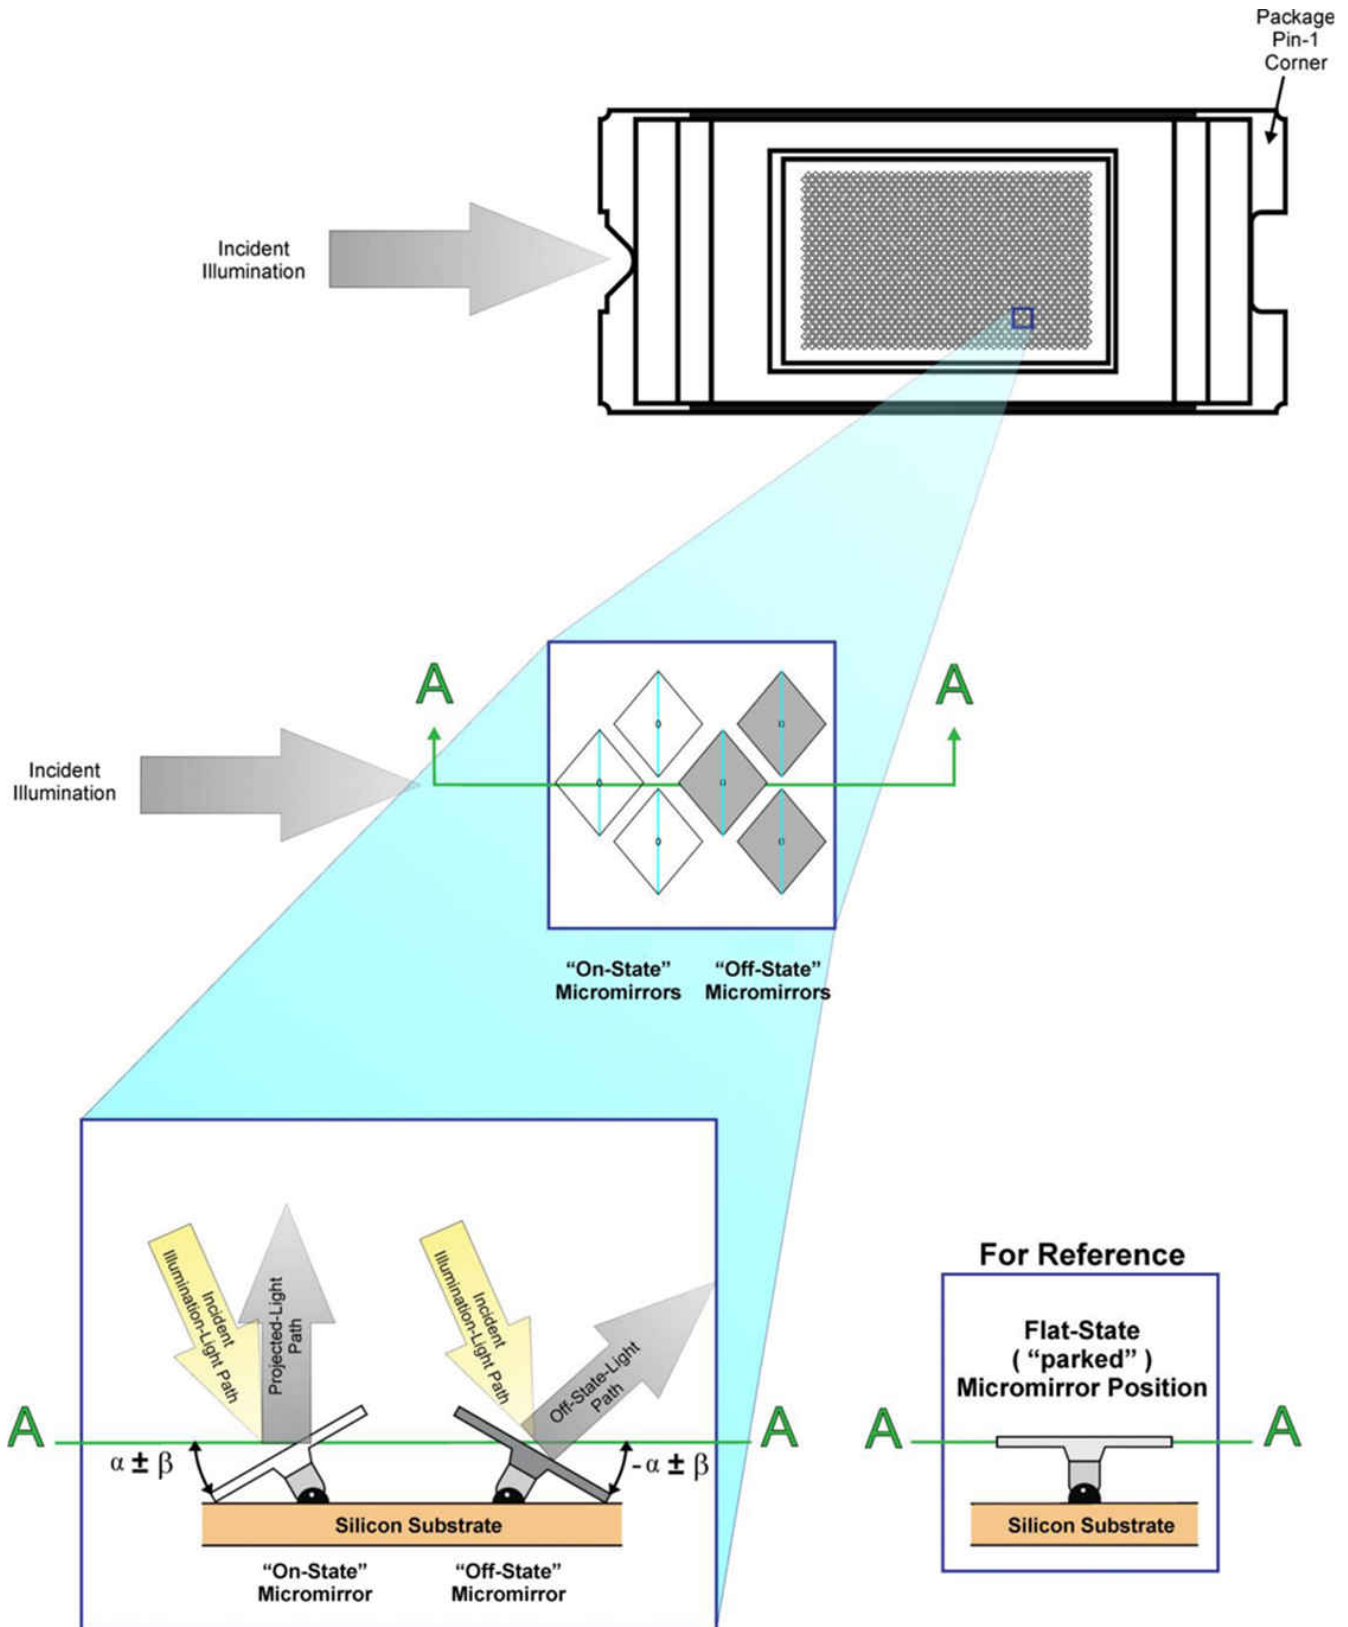

图 8-2. Micromirror Landed Positions and Light Paths
- (1) Measured relative to the plane formed by the overall micromirror array.
- (2) Micromirror crossover time is primarily a function of the natural response time of the micromirrors.
- (3) *Parking* the micromirror array returns all of the micromirrors to a relatively flat (0°) state (as measured relative to the plane formed by the overall micromirror array).
- (4) When the micromirror array is *parked*, the tilt angle of each individual micromirror is uncontrolled.
- (5) Additional variation exists between the micromirror array and the package datums.
- (6) When the micromirror array is *landed*, the tilt angle of each individual micromirror is dictated by the binary contents of the CMOS memory cell associated with each individual micromirror. A binary value of 1 results in a micromirror *landing* in an nominal angular position of +12°. A binary value of 0 results in a micromirror *landing* in an nominal angular position of - 12°.
- (7) Represents the *landed* tilt angle variation relative to the nominal *landed* tilt angle
- (8) Represents the variation that can occur between any two individual micromirrors, located on the same device or located on different devices.
- (9) For some applications, it is critical to account for the micromirror tilt angle variation in the overall system optical design. With some system optical designs, the micromirror tilt angle variation within a device may result in perceivable non-uniformities in the light field reflected from the micromirror array. With some system optical designs, the micromirror tilt angle variation between devices may result in colorimetry variations or system contrast variations.
- (10) See 图 8-2.
- (11) Non-operating micromirror is defined as a micromirror that is unable to transition nominally from the - 12° position to +12° or vice versa.
- (12) Performance as measured at the start of life.
- (13) Measured relative to the package datums B and C, shown in the Package Mechanical Data section in # 13.
- (14) The nominal DMD total optical efficiency results from the following four components:
- (15) The DMD diffraction efficiency and total optical efficiency observed in a specific application depends on numerous application-specific design variables, such as:
Each micromirror is switchable between two discrete angular positions: -12° and 12° . The angular positions α and β are measured relative to a 0° flat reference when the mirrors are parked in their inactive state, parallel to the array plane (see Figure 8-2). The parked position is not a latched position. Individual micromirror angular positions are relatively flat, but do vary. The tilt direction is perpendicular to the hinge-axis. The on-state landed position is directed toward the left side of the package (see Figure 8-2).